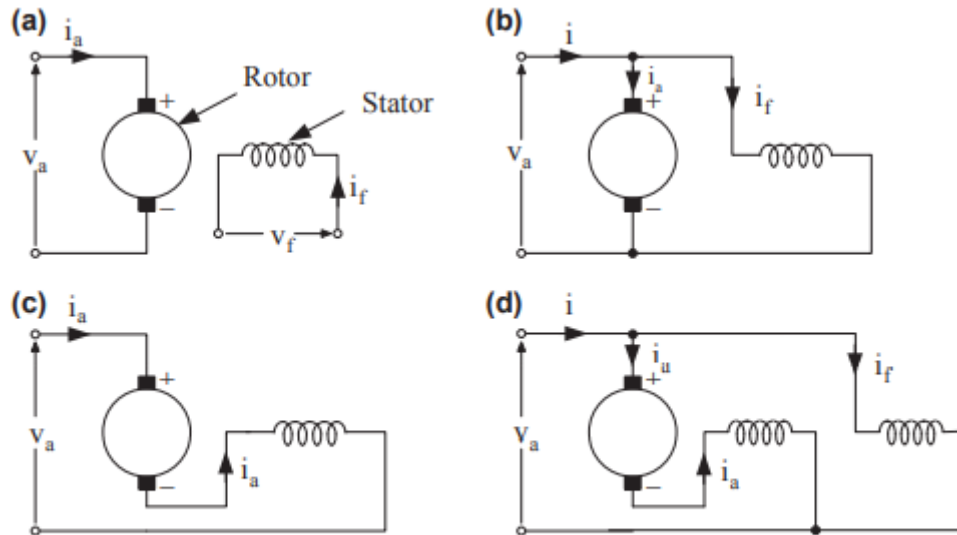

Figure 12.5 Types of dc motors. (a) Separately excited dc motors; (b) shunt excited dc motors; (c) series excited dc; (d) compound excited dc motors.
- a) Separately excited dc motors (Fig. 12.5(a))
- b) Shunt excited dc motors (Fig. 12.5(b))
- c) Series excited dc motors (Fig. 12.5(c))
- d) Compound excited dc motors (Fig. 12.5(d))